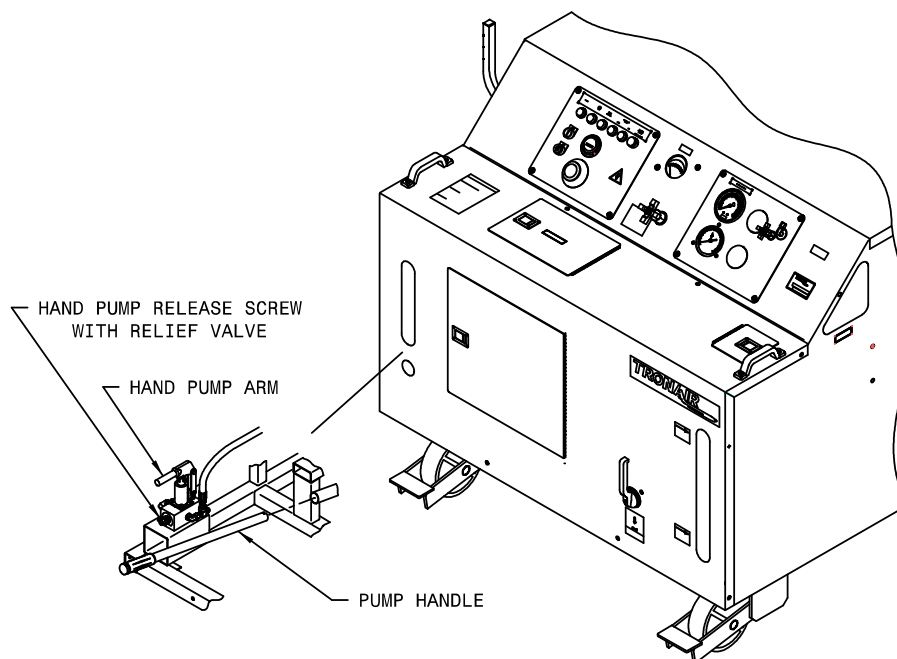

**FIGURE 5.3.5 – Hydraulic Pump Controls**
- Pump Control Access..... See **Figure 5.3.5 - Hydraulic Pump Controls**.